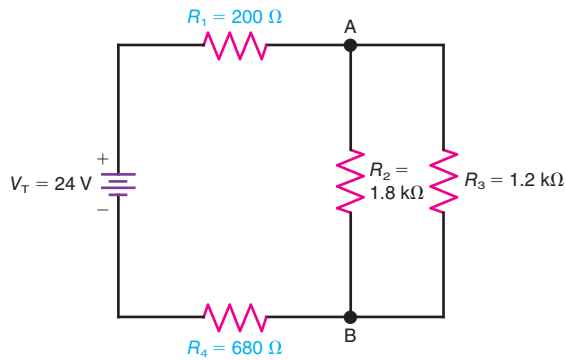

Figure 7-15
QUESTIONS 1–12 Refer to Fig. 7-15.
- In Fig. 7-15,
- In Fig. 7-15, the total resistance, R_T , equals
- In Fig. 7-15, the total current, I_T , equals
- In Fig. 7-15, how much voltage is across points A and B?
- In Fig. 7-15, how much is I_2 through R_2 ?
- In Fig. 7-15, how much is I_3 through R_3 ?
- If R_4 shorts in Fig. 7-15, the voltage, V_{AB}
- If R_2 becomes open in Fig. 7-15,
- If R_1 opens in Fig. 7-15,
- If R_3 becomes open in Fig. 7-15, what happens to the voltage across points A and B?
- If R_2 shorts in Fig. 7-15,